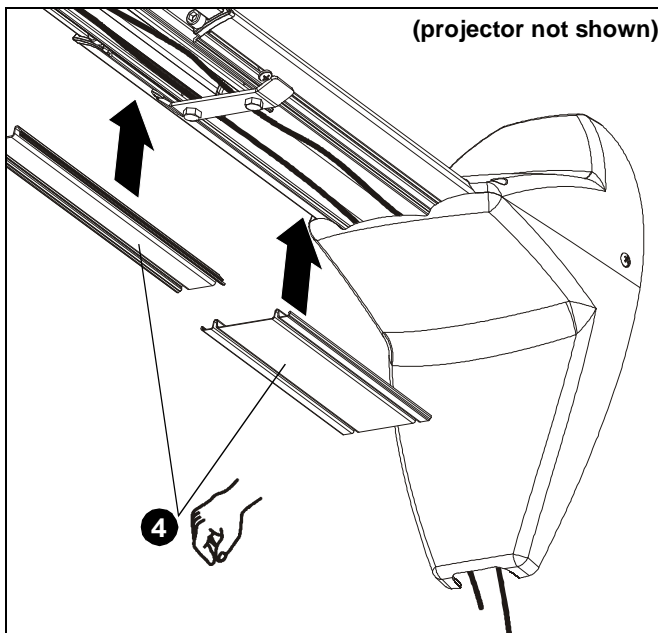

Figure 26
4. Replace removed cable management covers (if necessary). Insert one side of cover into groove and press firmly on the cover on the other side until it snaps into the other groove. (See Figure 26)